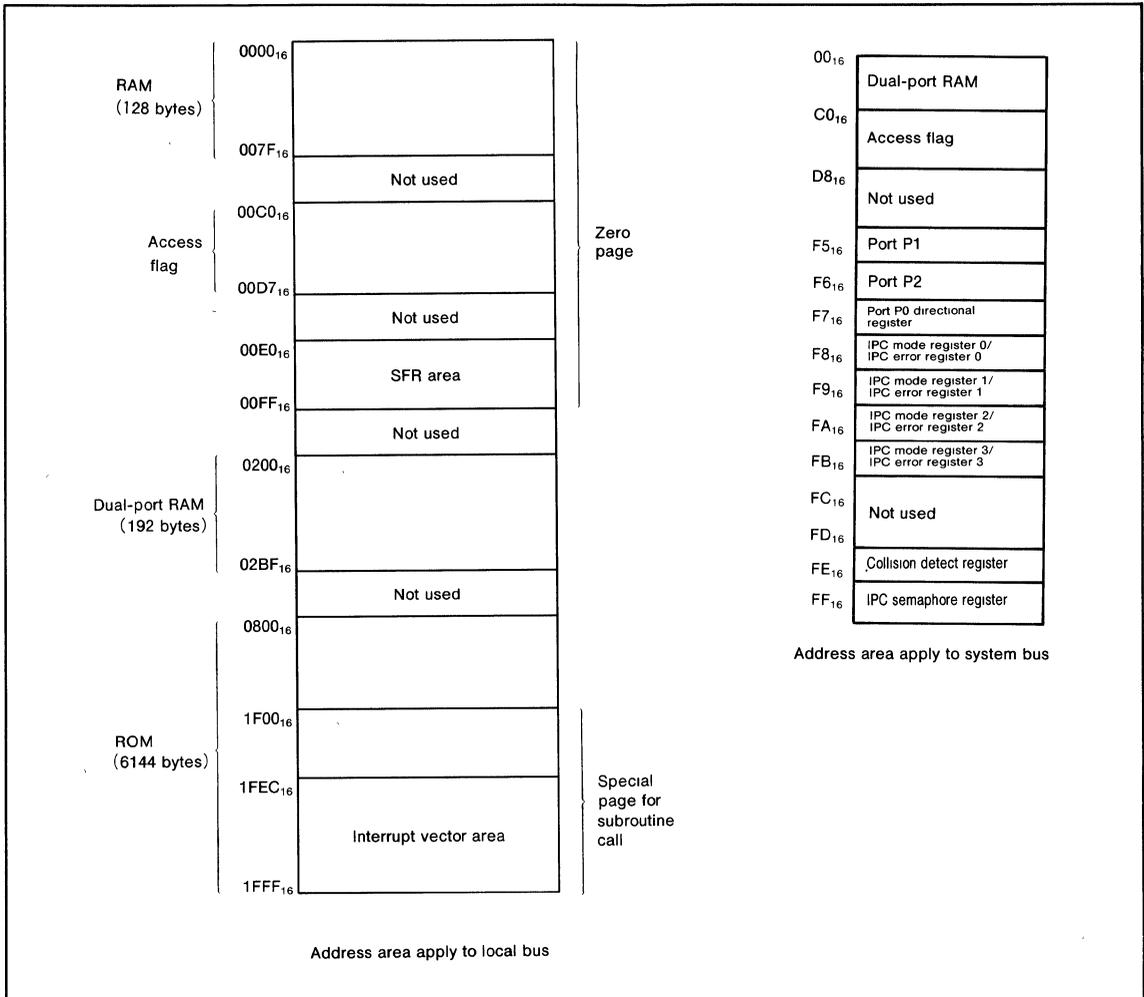

Fig.1 Memory map
(1) In case of the M5L2764K EPROM use the following areas (refer to Figure 1).